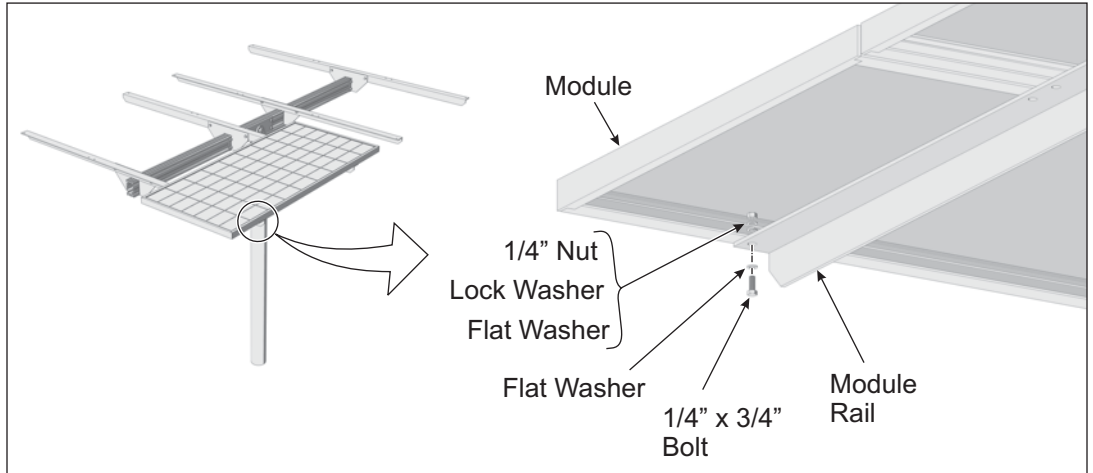

Figure 6-1: Installing PV Modules to Module Rails
- A. Place a southern most PV Module on the Module Rails. Align the mounting holes and secure with 1/4" x 3/4" bolts and hardware. Each Module has four attachment points. Finger-tighten for now. (See Figure 6-1)